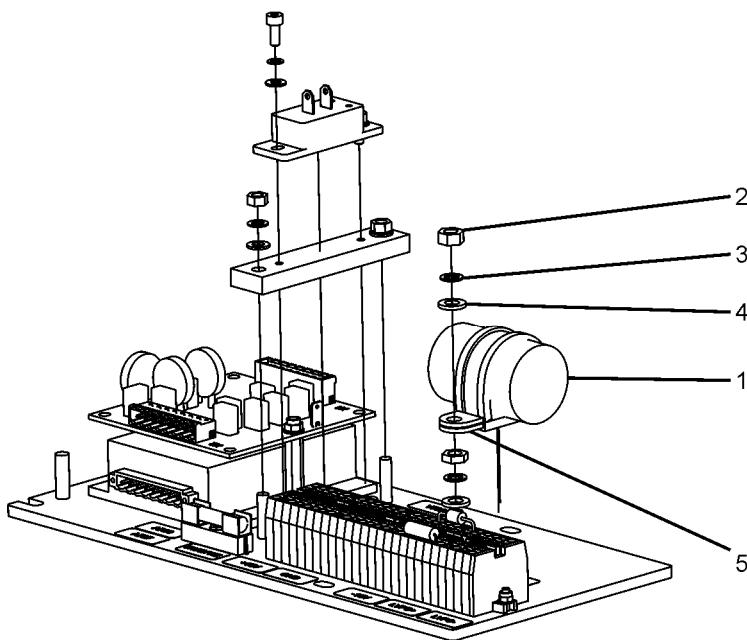

Figure 5-59: C720 Anchor Points
6. Detach C720 (see Figure 5-59). C720 (1) is mounted in a clamping device (5) and is held in place with tension supplied by an M6 nut (2) M6 Schnorr washer (3) and M6 washer (4) sets. Loosen these fasteners to disengage the clamp from the C720.
3. Insert C720 (see Figure 5-59). Slide the capacitor into the clamping device with the + terminal toward the inside of the converter.
4. Secure C720 (see Figure 5-59). C720 (1) is mounted in a clamping device (5) and is held in place with tension supplied by an M6 nut (2) M6 Schnorr washer (3) and M6 washer (4) sets. Tighten these fasteners to until C720 no longer turns freely by hand.